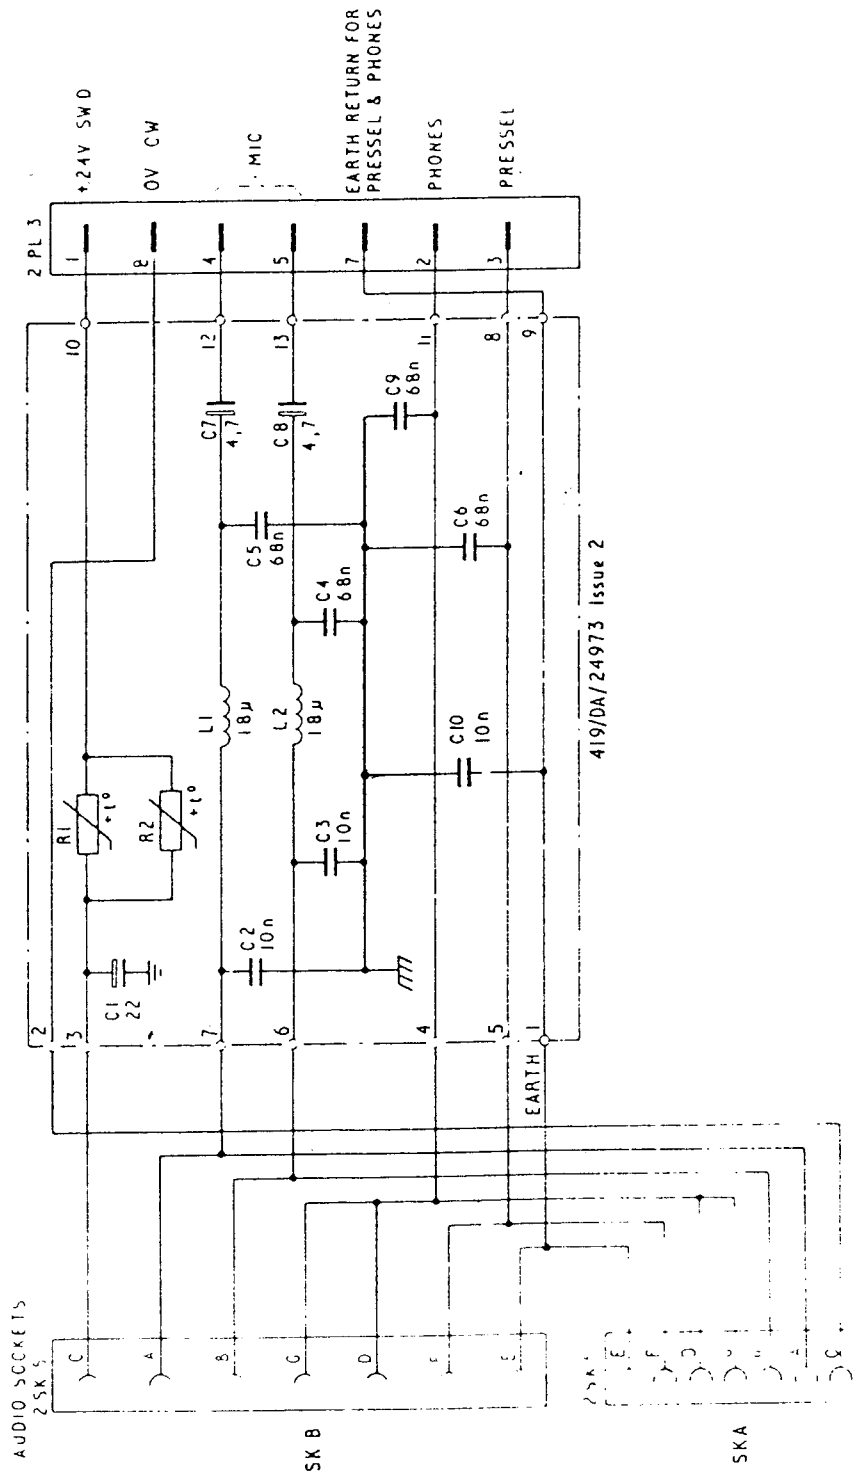

Fig 1 Unit 2g RF decoupler - circuit
3. A circuit diagram of the unit is given in Fig.1.
4. A circuit diagram of the assembly is given in fig.1. Each filter (fig.2) is a two-section, low pass, Darlington type configuration. The value of components differ in each filter to provide the following characteristics: